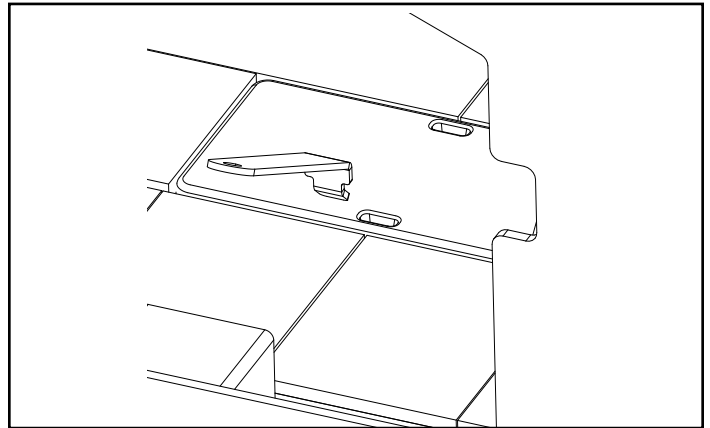

Figure 16.2
2. Remove cast iron cap from inside the firebox using tools supplied. Clean ash through the ash removal system channel into the drawer below (**Figure 16.2**). Make sure all ash is removed from the top of ARS door. Lift up the grate and inspect the top of the door to ensure all ash has been removed. You can rapidly move the ARS latch handle up and down to help remove any ash from the door. Use a small brush to clean off the top of the door if any ash remains. **Be sure to replace the cap before operating the stove.** It is recommended to leave 1/4 to 1/2 inch (6-13mm) of ash on the firebox floor to allow air to flow freely underneath wood.